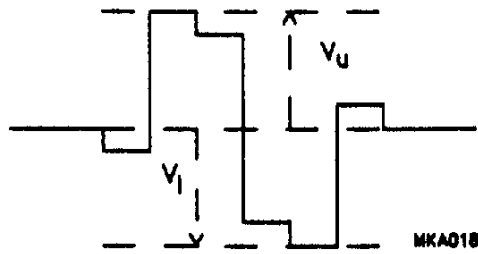

Fig.3 Non-linearity definition.
4. Measured as $100\% \times (|V_U| - |V_L|) / (|V_U| + |V_L|)$; see Fig.3.